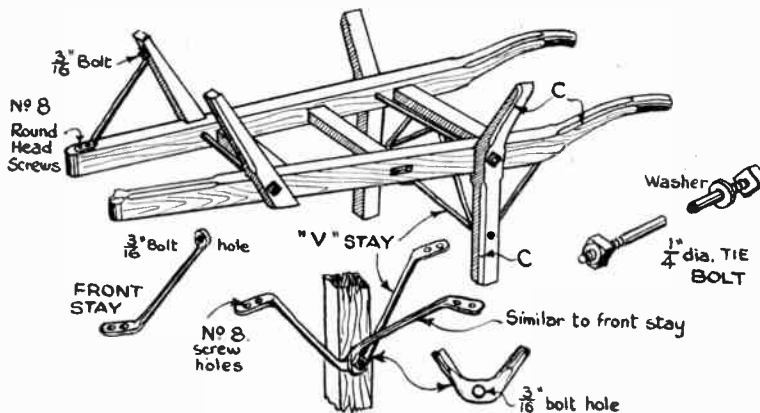
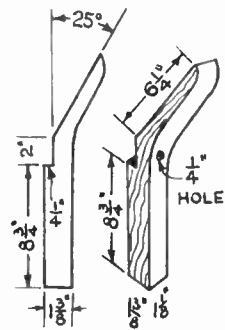
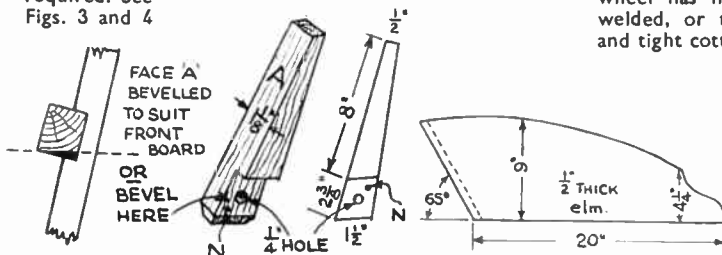

Fig. 4
Fig. 5
Fig. 6
Cut out the legs and front supports as at Fig. 5 from $1\frac{1}{2}$ in. hardwood. Again a bandsaw is the ideal cutting instrument. Notice that the front supports must be bevelled so that the front board (Fig. 6) fits correctly against them. Either bevel face (A) or the face which fits against the side where the bolt goes through. Chamfer the parts (C, Fig. 4) and fix to the framework each with two nails (N, Fig. 5) and bolt the whole together with long $\frac{1}{2}$ in. tie rods passed through the sides, legs, and front supports as at Fig. 4.
Refer to Fig. 6. The front board is $9\frac{1}{2}$ ins. high at the centre and 9 ins. at the sides. It is bevelled at the bottom, where width (X) must be the same as the barrow width at the base of the front supports (Fig. 1). Two battens $\frac{1}{2}$ in. thick by $\frac{1}{2}$ in. are nailed down the edges of the front board as a support for the ends of the side boards. The battens are slightly bevelled on the inner edge. Screw the front board to the supports,
All the iron stays should next be made and fitted. If you do not feel up to making these, it is best to get a blacksmith to do the job. The flattened ends for the roundhead screws are $1\frac{1}{2}$ ins. long. The ends for the $\frac{3}{8}$ in. bolts are about $\frac{1}{2}$ in. diameter and thicker (see Fig. 4). The centre of the long leg stays is flattened for about an inch after